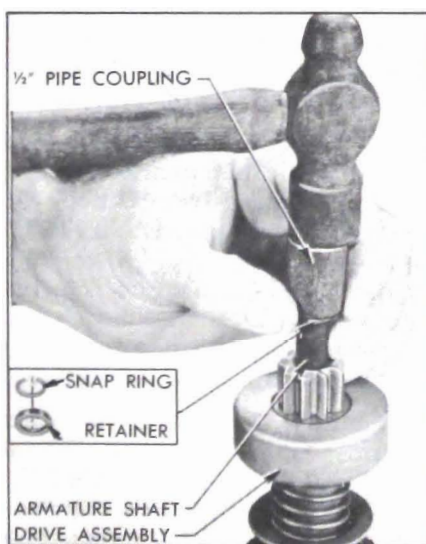

Figure 10-35—Removing Pinion Stop Retainer and Snap Ring
7. To remove drive assembly from armature, place a metal cylinder of proper size (1/2" pipe coupling will do) over end of shaft to bear against the pinion stop retainer. Tap retainer toward armature to uncover snap ring. See Figure 10-35. Remove snap ring from groove in shaft, then slide retainer and pinion drive assembly from shaft.